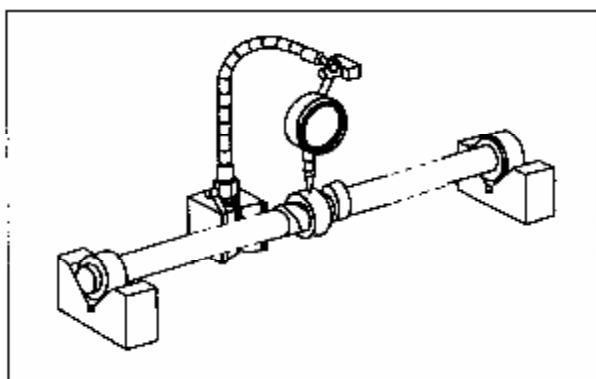

Figure 3-38 Measure Journal Run-out at Middle of Camshaft
**3.4.3** Measure journal run-out at middle of camshaft (Figure 3-38), the maximum value should be 0.06mm. Otherwise replace the camshaft.